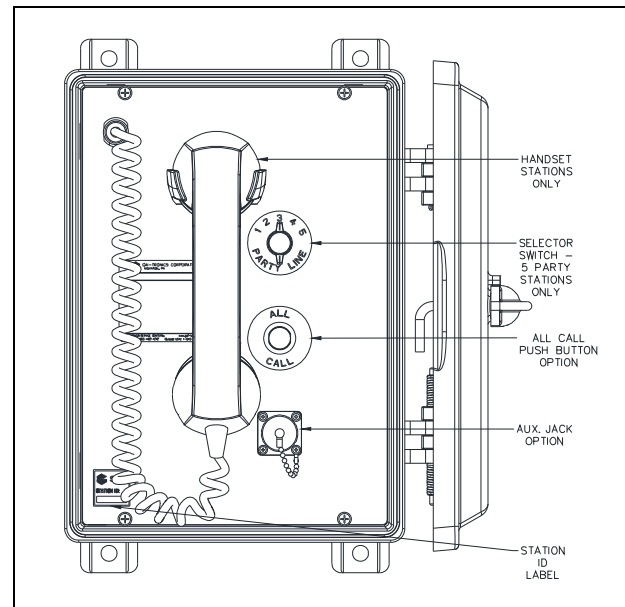
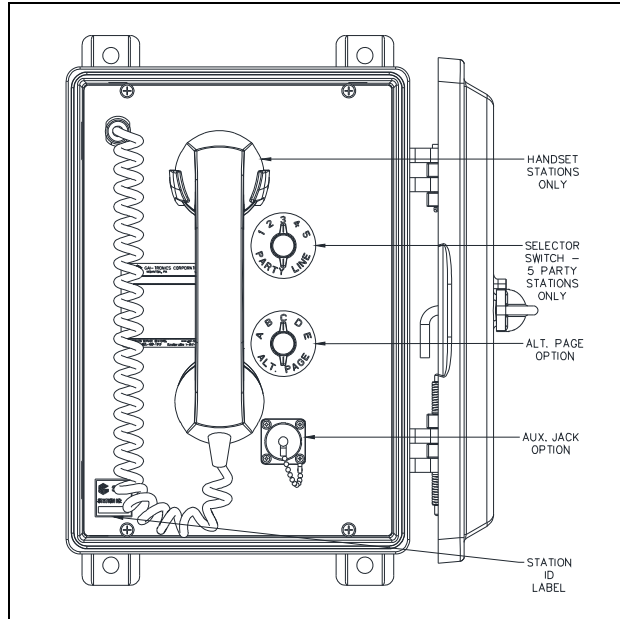

Figure 11. All-Call Button Option
Figure 12. Alternate-Page Switch Option
Use the ALL-CALL button to page an alternate destination that is programmed for the station (see Figure 11). The ALL-CALL option must be software configured for the SP2 station. To initiate a page using the ALL-CALL feature:
Use the ALT-PAGE selector switch to page one of five alternate destinations programmed for the station (see Figure 12). Alternate page destinations must be software configured for SP2 stations. To initiate a page using the ALT-PAGE selector switch:
1. Attach the headset assembly to the auxiliary jack on the station (see Figure 11 or Figure 12).